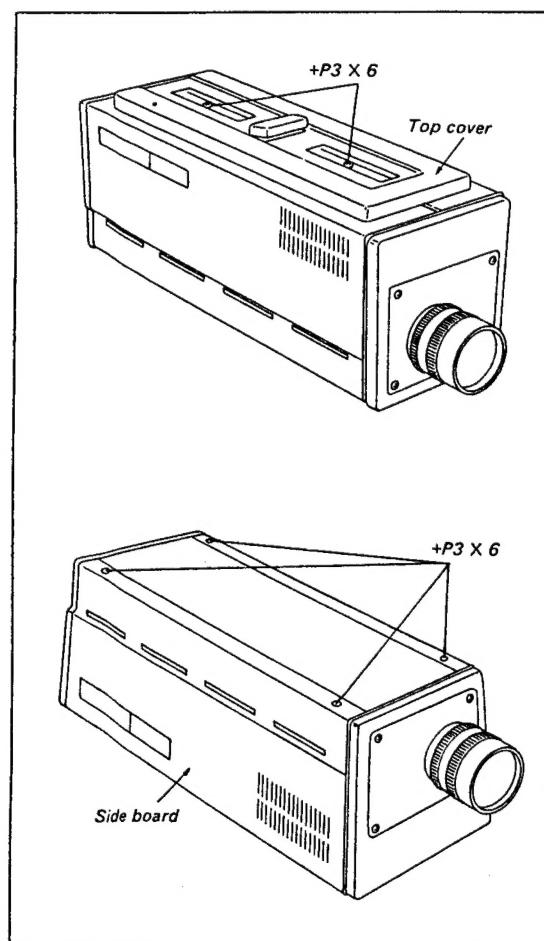

Fig. 3-1. Cabinet removal
- Stand the camera in its normal position as shown in Fig. 3-1.
- Turn the camera upside down as shown in Fig. 3-1.